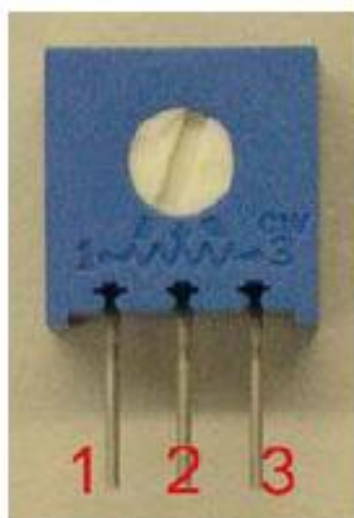

Figure 5.5: This is a potentiometer, a variable resistor
2. Place the two potentiometers (see Figure 5.5) in positions R1 and R. Solder all three pins on each potentiometer.
5. Given the calculated value of R_1 , set the potentiometer appropriately. Figure 5.5 shows a potentiometer (pot), with the pin-outs labeled. Connect a multimeter to the two leftmost pins of the pot and rotate the dial using a screwdriver or fingernail until it outputs the calculated resistance. R_1 is the resistance between these two pins; the third pin does not connect to anything.